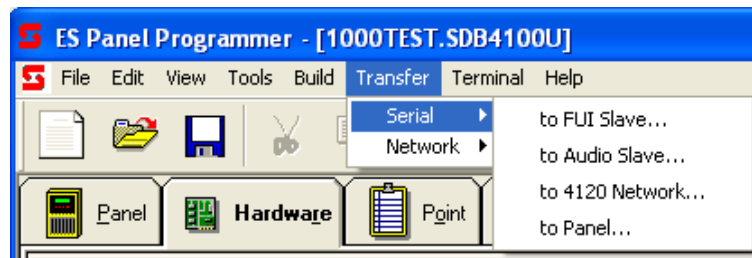

Figure 16-10. Transfer Menu with Serial Option Selected
The ES Panel Serial File Transfer utility, shown in Figure 16-10, can be started from within the ES Panel Programmer.
- While the programmer is already running, click on the Transfer menu, located along the menu bar at the top of the programmer window. When the options appear, click on **Serial**, and then select the connection you want to make. See Figure 16-10.